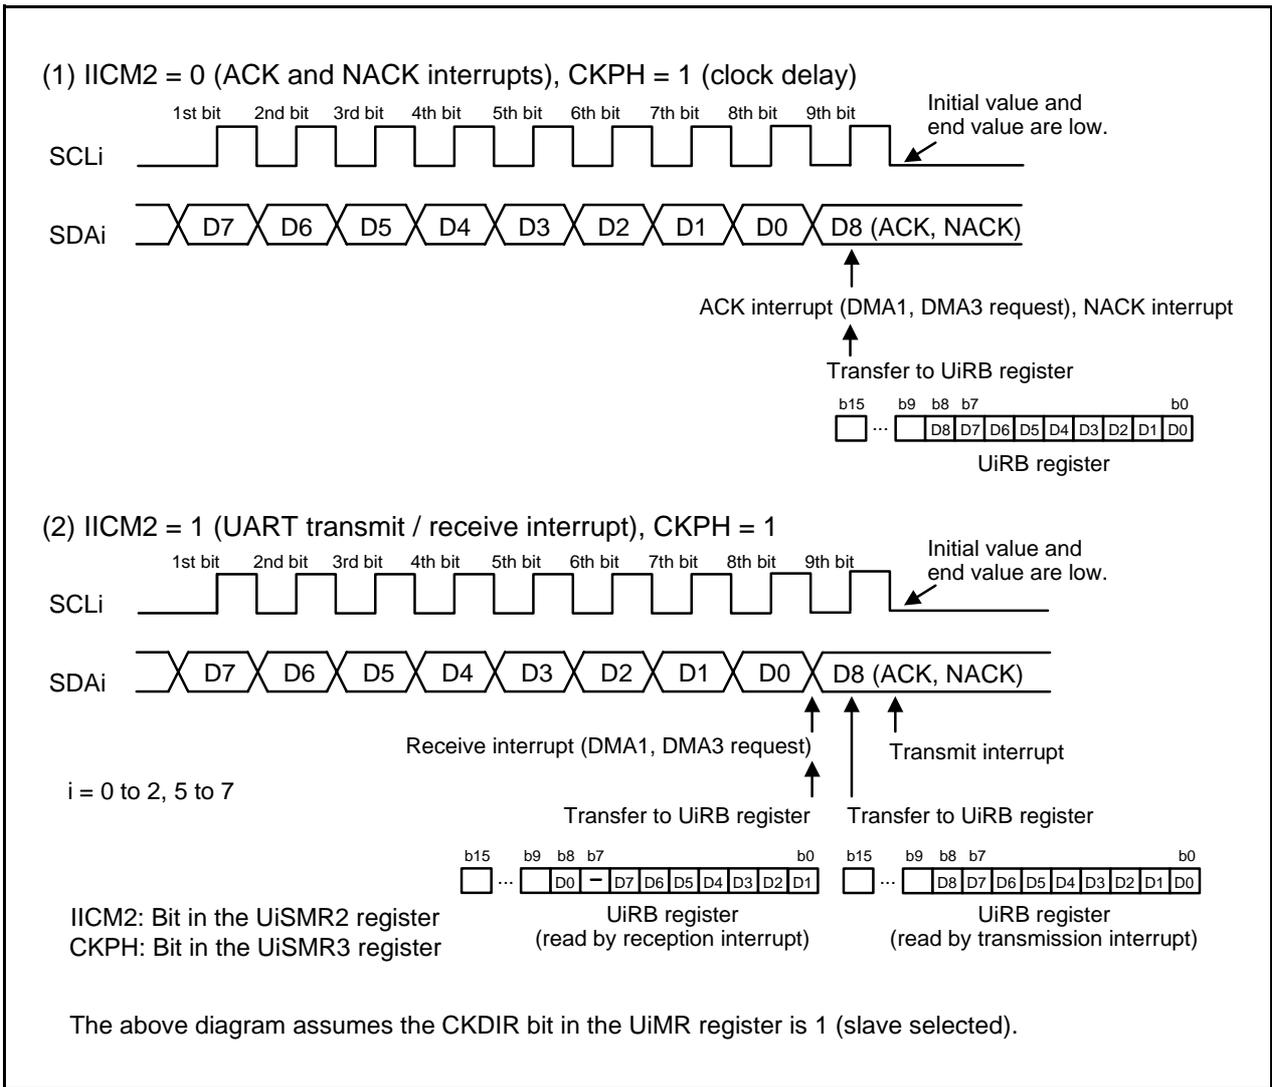

Figure 19.20 Transfer to UiRB Register and Interrupt Timing
In I2C mode, functions and timings vary depending on the combination of the IICM2 bit in the UiSMR2 register and CKPH bit in the UiSMR3 register. Figure 19.20 shows Transfer to UiRB Register and Interrupt Timing. See Figure 19.20 for the timing of transferring to the UiRB register, the bit position of the data stored in the UiRB register, types of interrupts, interrupt requests, and DMA request generation timing.
- See Figure 19.20 “Transfer to UiRB Register and Interrupt Timing”.
Data transmission/reception in I2C mode uses the transmit/receive clock as shown in Figure 19.20 "Transfer to UiRB Register and Interrupt Timing". The clock speed increase makes it difficult to secure the required time for ACK generation and data transmit procedure. The I2C mode supports a function of wait-state insertion to secure this required time and a function of clock synchronization with a wait-state inserted by other devices.
Read the received data from the UiRB register. When the clock delay function is used, data transfer to the UiRB register occurs twice and each UiRB register value is different. Refer to Figure 19.20 “Transfer to UiRB Register and Interrupt Timing” for details.